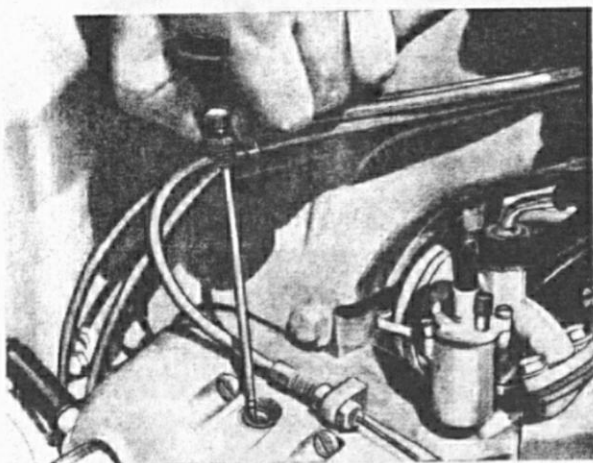

Fig. 5: Measuring oil level with dipstick
1. Unscrew dipstick (Fig. 5), wipe it dry, screw it in and out repeatedly.